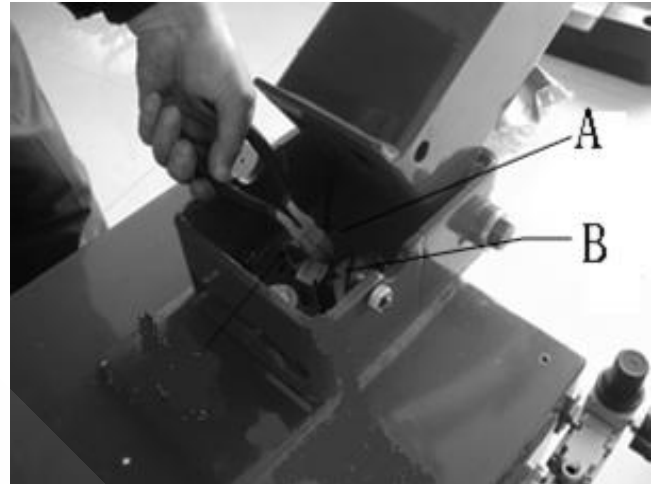

Fig 4-5
4.2.8 Tilt backward the column, cut off the tie of the fix rod (Fig4-5 A) and push out cylinder piston rod
(Fig4-5 B) .